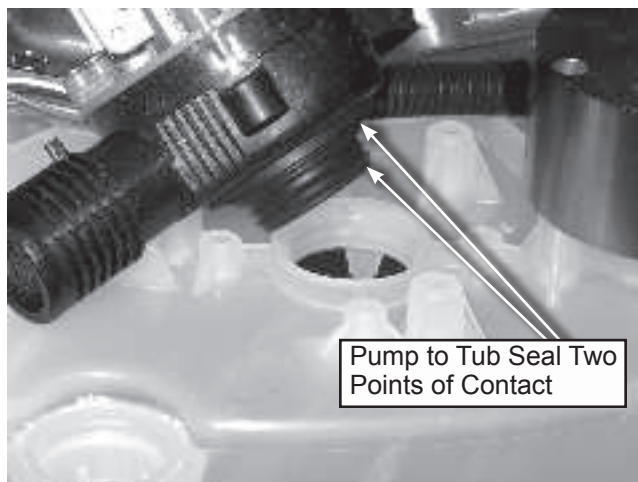

Figure 2
7. Remove three (3) mounting screws, see figure 2.
8. Remove pump assembly, see figure 2.